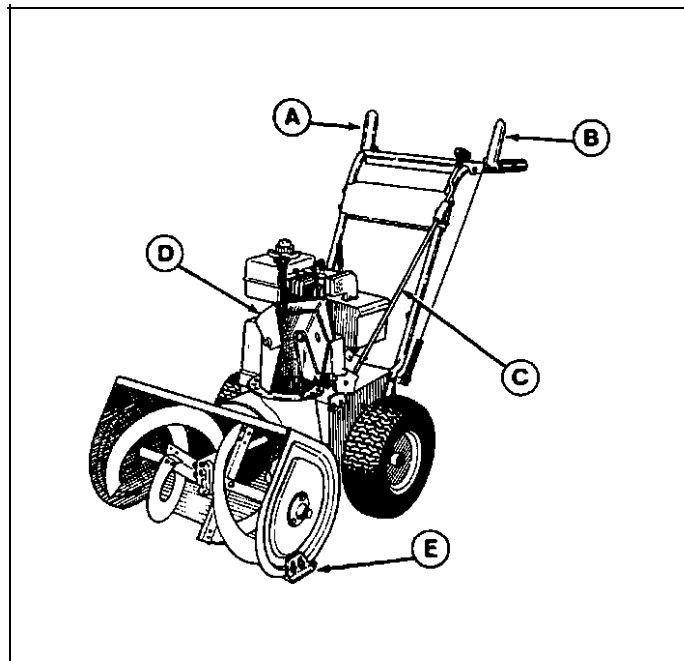
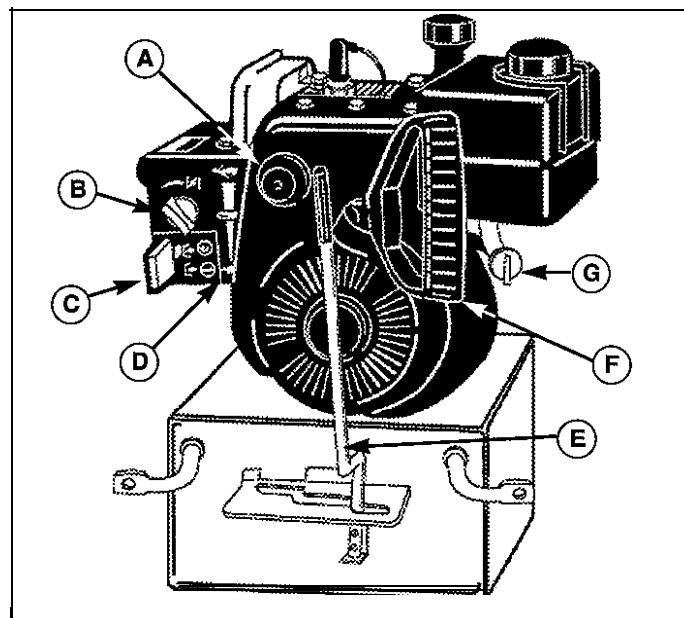

Figure 1. Snowthrower Controls
Figure 2. Engine Controls
(Figure 1)
(Figure 2)
The engine can be started with the rewind (rope) starter or optional 120V electric starter. The engine can be stopped by moving the throttle lever (D, figure 2) all the way down, or by pulling out on the ignition key.
For overall best performance, run the snowthrower at full operating engine speed. Use the engine throttle lever (D, figure 2) to set the engine speed.
Use the ground speed shift lever (E, figure 2) to control the drive speed of the snowthrower. There are three forward speeds and one reverse speed. Position 1 is for extra deep, wet, heavy snow. Position 2 is for deep, wet, heavy snow. Position 3 is for light, fluffy snow and to drive the snowthrower without blowing snow. To change speeds, first release the drive control clutch lever (B, figure 1), then move the ground speed shift lever to the desired speed setting.
5. Check the auger control clutch lever (A, figure 1), drive control clutch lever (B, figure 1) and discharge chute deflector (D, figure 1) for proper operation. If adjustment is required, see the Service Section for procedures.
6. Check the discharge chute control rod (C, figure 1) for proper function. Check to make sure sprocket teeth on lower chute control rod fully engage holes in flange around bottom of discharge chute. The bracket that holds lower chute control rod is slotted and can be moved up or down to obtain full engagement of sprocket teeth.